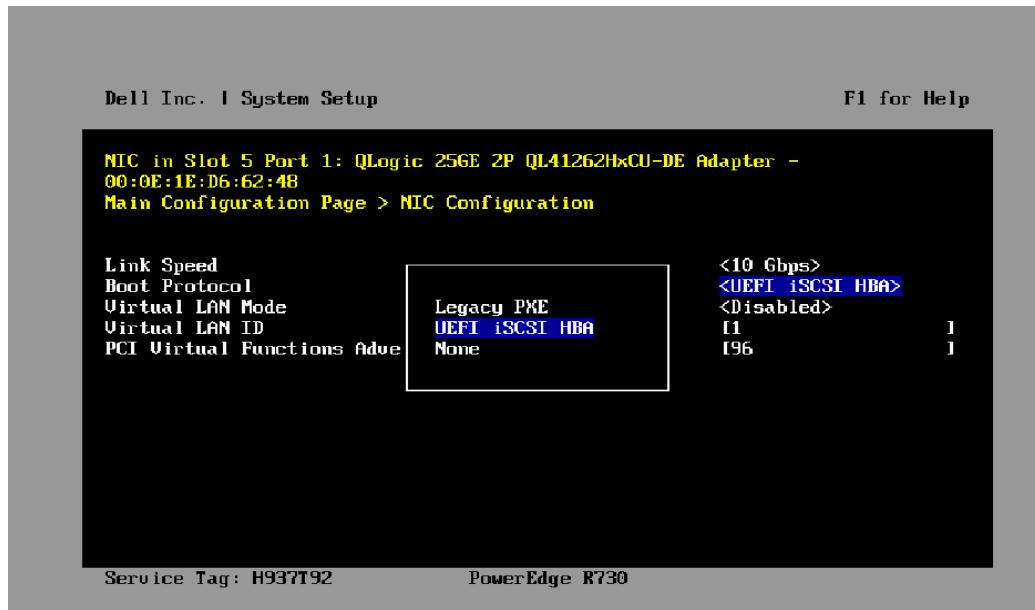

Figure 9-5. System Setup: NIC Configuration, Boot Protocol
5. On the NIC Configuration page (Figure 9-5), select **Boot Protocol**, and then press ENTER to select **UEFI iSCSI HBA** (requires NPAR mode).